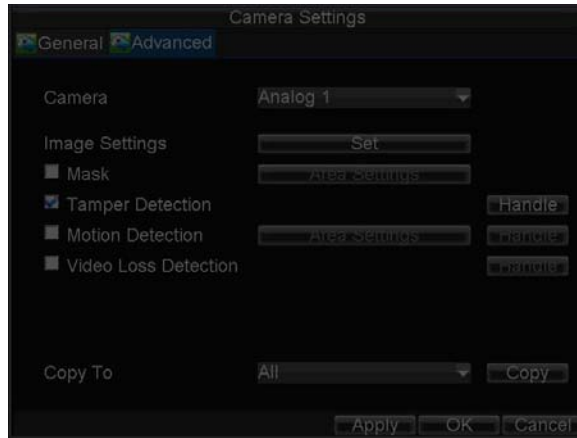

Figure 19. Camera Settings Menu
4. Check the **Tamper Detection** checkbox to enable this feature, as shown in Figure 19.
5. Click the **Handle** button to enter the Exception Handle menu, shown in Figure19.